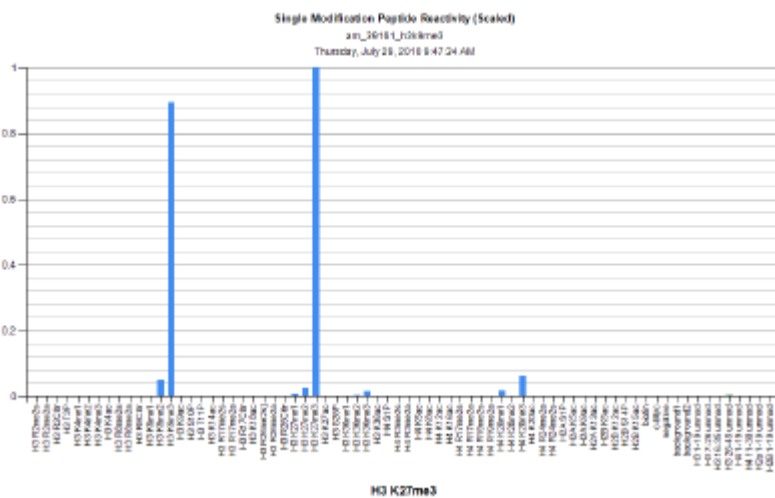

Figure 8. Example of a Reactivity Plot
6.14. The **Reactivity** tab displays the background subtracted intensity values for all single modified peptides, as well as for the control spots. See Figure 8 for an example.